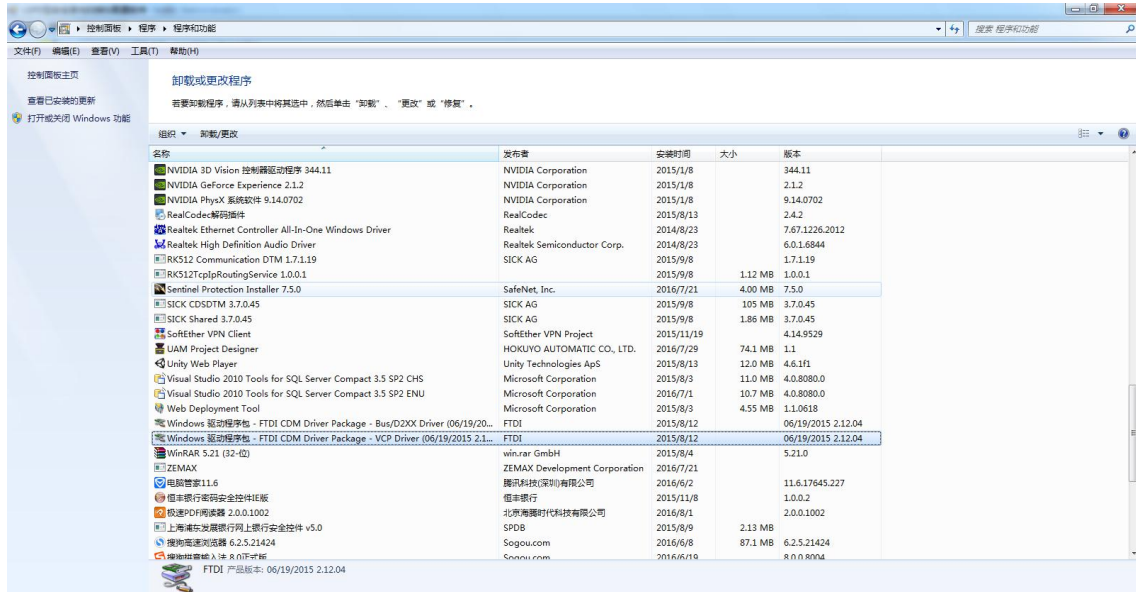

Fig4.1 USB driver uninstall
3) Select the correct COM port. For the method to search the COM port for the scanner, see Step (8) in Chapter 3.1.2.
5) Close the configuration software, power off the scanner, unplug configuration cable and then uninstall USB drive: uninstall [Windows Driver Package -FTDI CDM Driver Package -Bus / D2XX (07/10/2015 2.12.06)] and [Windows Driver Package-FTDI CDM Driver Package -VCP Driver (07/10/2015 2.12.06)] from [Add / Remove Programs] of windows control panel respectively, as shown in Fig. 4.1.